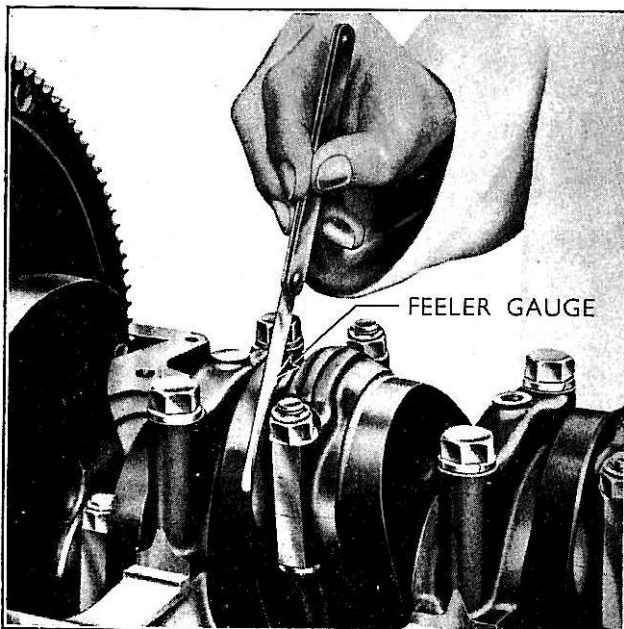

Fig. 62
- 8 Fit new locknuts and tighten to the specified torque and check the end float by means of a feeler gauge as shown in Fig. 62.